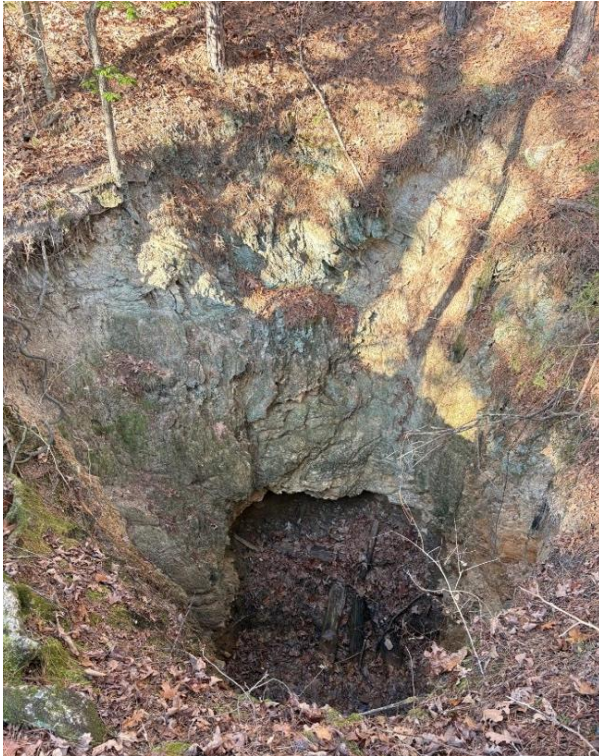

Figure 3 Previously undocumented mines within the Gilham Project area
- ✔ Several previously undocumented mines and historical workings were identified, materially enhancing the geological understanding and exploration upside (Figure 3).